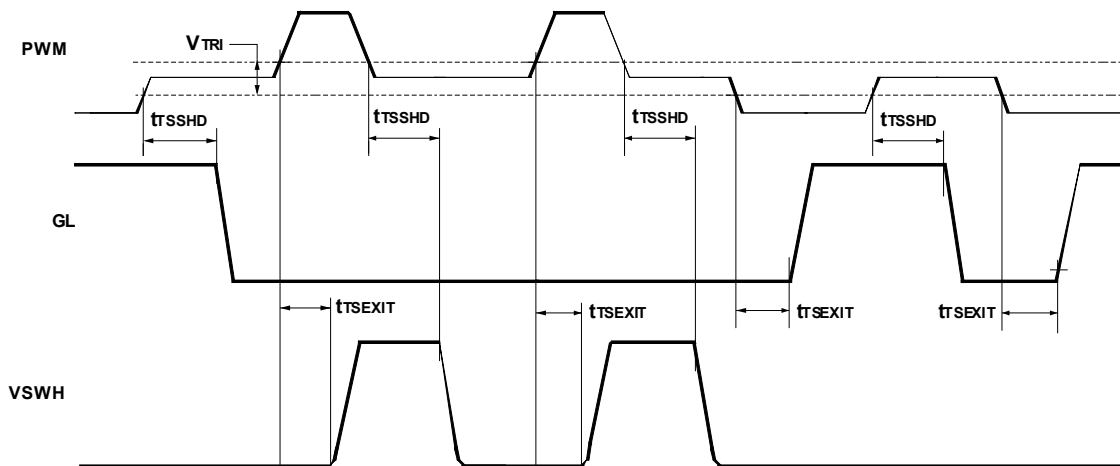

Figure 2. PWM Tri-State Hold Off and Exit Timing Diagram
The PWM input is also a Tri-State compatible input. When the PWM output of the Master Controller is in high impedance or not connected, both the gate driver outputs will turn off the MOSFETs. The PWM Input and Tri-State Thresholds table in Table 2 lists the thresholds levels for high and low level transitions as well as Tri-State window. As shown in Figure 2, there is a HOLDOFF delay between the corresponding PWM Tri-State signal and the output gate drivers being pulled low. This delay is typically 25ns and intended to prevent spurious triggering caused by Tri-State mode entrance.
**Note:** See Figure 2 for propagation delays and Tri-State window.